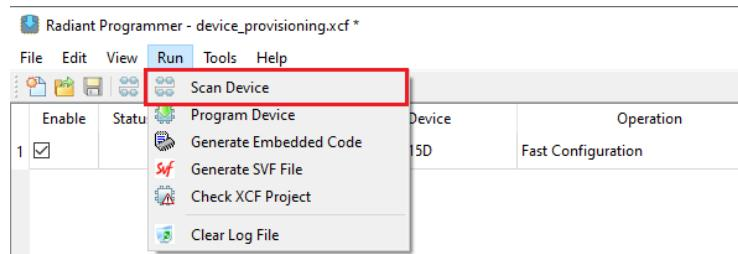

Figure 6.15. Scan Device
3. From the Run menu, select **Scan Device**. See Figure 6.15.